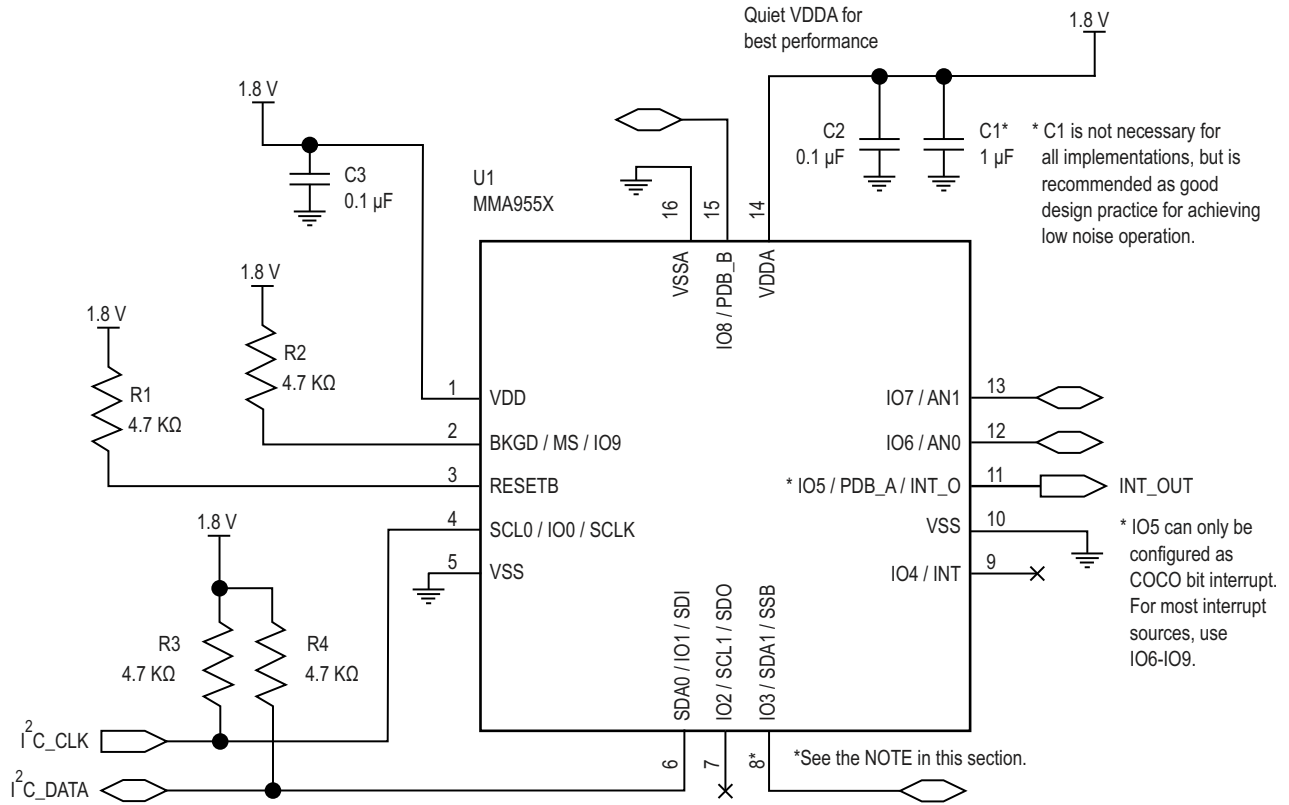
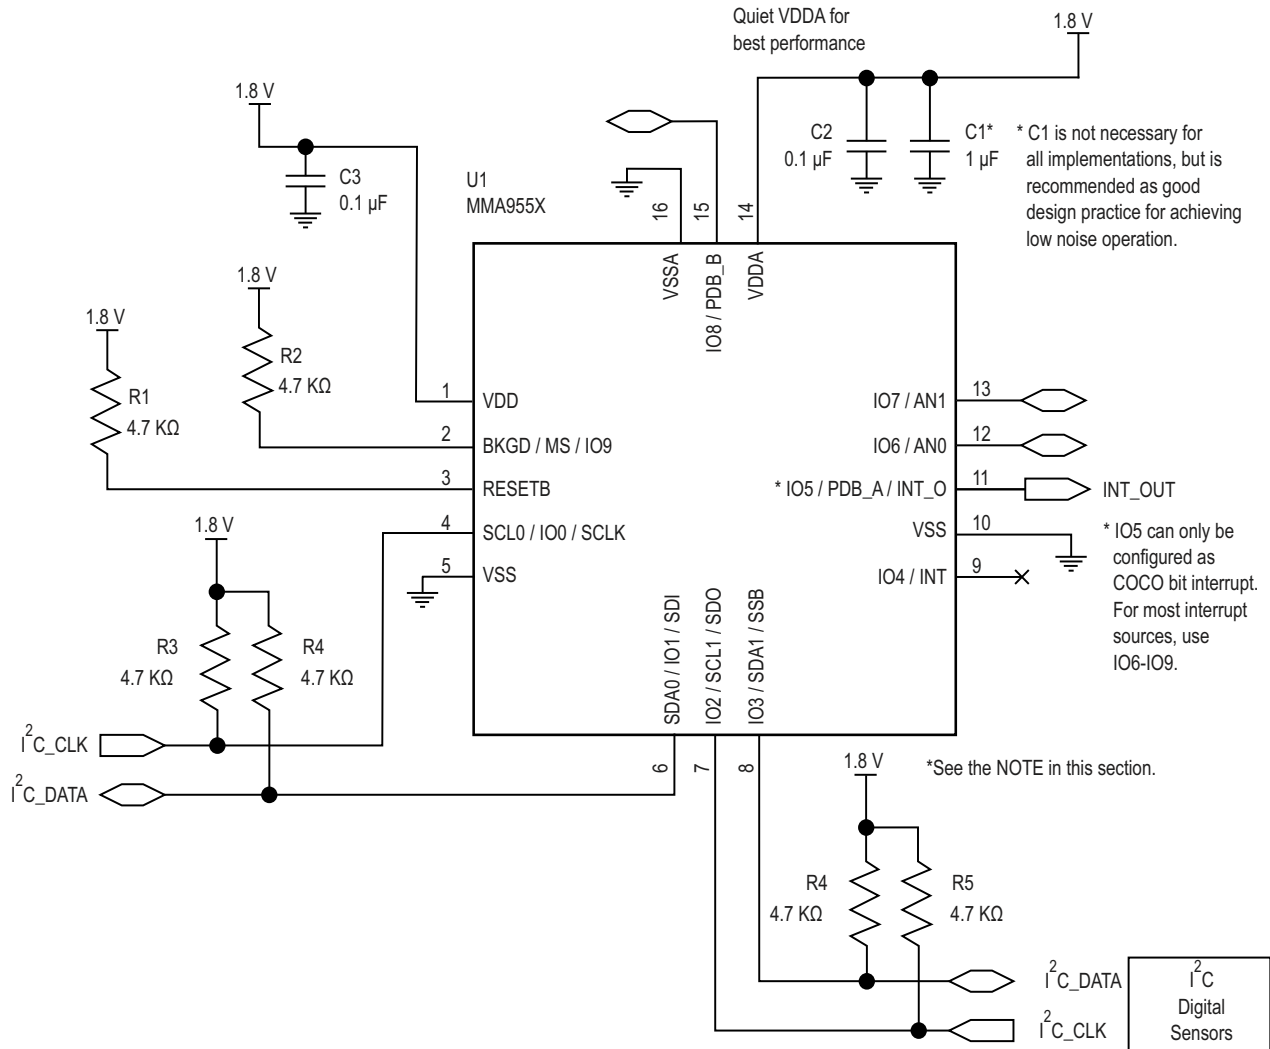

Figure 5. Platform as an SPI slave
Figure 6. Platform as sensor hub
**VDDA and VSSA:** Analog power and ground. VDDA is nominally 1.8 V. To optimize performance, the VDDA line can be filtered to remove any digital noise that can be present on the 1.8 V supply. (See Figure 5 and Figure 6 on page 16.)